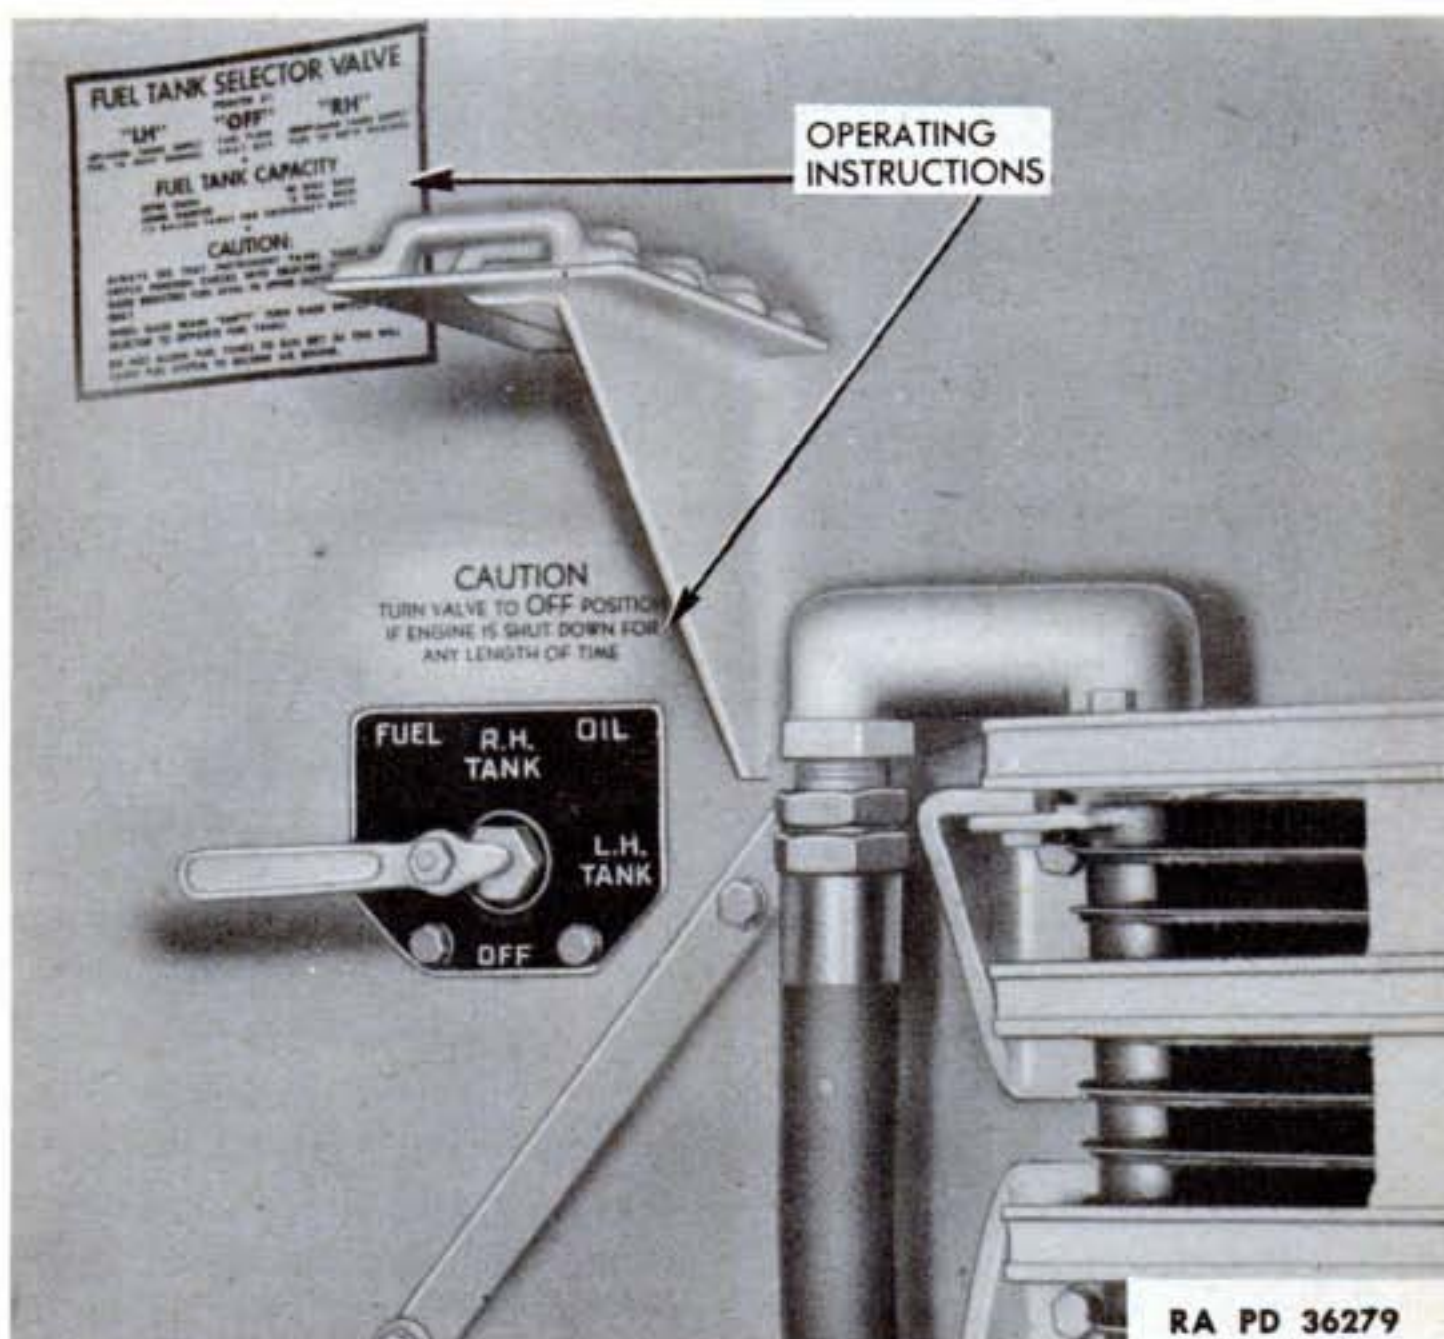

Figure 18—Fuel Tank Selector Valve
j. Fuel Tank Selector Valve. This valve is located at the right on fighting compartment side of the bulkhead (fig. 18) and is operated to select the set of tanks from which fuel is to be used. During
- (1) Turn fuel tank selector valve (fig. 18) to right or left.